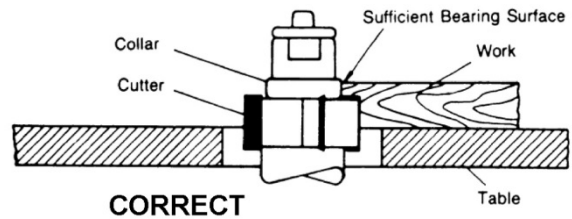
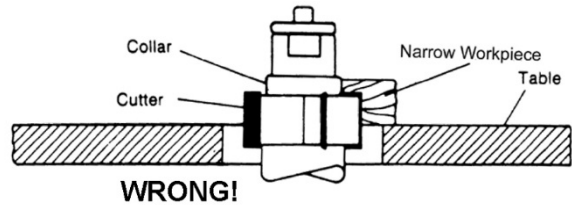

Figure 15
Figure 16
4. The work must be heavy in proportion to the cut being made (see Figure 15). Under no circumstances should a small workpiece be shaped against the collars as shown in Figure 16.